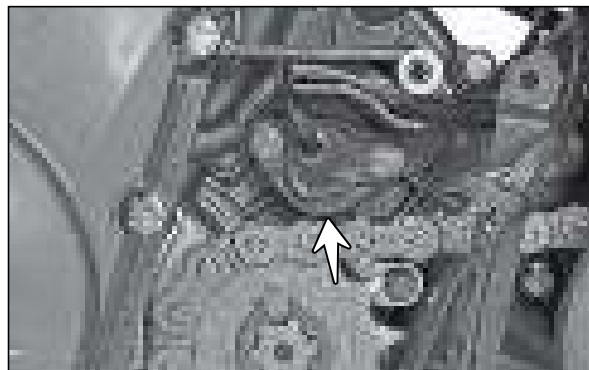

Fig. 5.65
- The gear position sensor is mounted on the crankcase assembly LH below the cover engine sprocket. (Fig. 5.65)
- Gear position sensor senses the exact position of the gear and generates the resistance accordingly. These resistance are sent to the digital speedometer and the TCI unit through a white green wire (WG). To measure the resistance level of gear position sensor at various position follow the procedure given below: